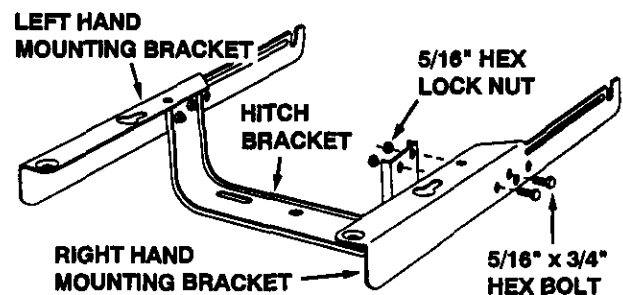

FIGURE 4
- Assemble the right and left mounting brackets to the hitch bracket using four 5/16" x 3/4" hex bolts and 5/16" hex lock nuts. **Do not tighten yet.** See figure 4.
- Align the frame so that it is straight and level with the tractor. **Tighten** the four 5/16" x 3/4" hex bolts (assembled in figure 4) which fasten the mounting brackets to the hitch bracket .